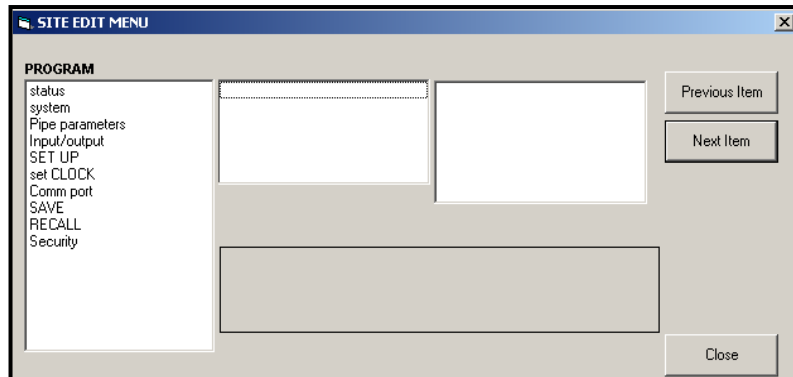

Figure 36: The Site Edit Menu Window
- To open a particular menu, double-click on that menu on the tree. For example, if you double-click on the Site Edit Menu, a window opens similar to Figure 36 below.